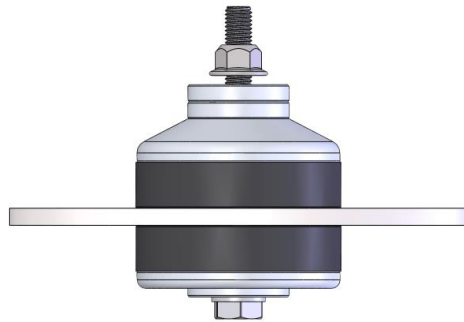

Figure 3 - Two top spacers removed-1/2" lower.
**To Lower the Engine:** In order to lower the engine height, remove the desired number of spacers from the engine mount isolator assemblies (Figure 3). Each spacer is 1/4" tall, so the engine can be lowered up to 1" in 1/4" increments.